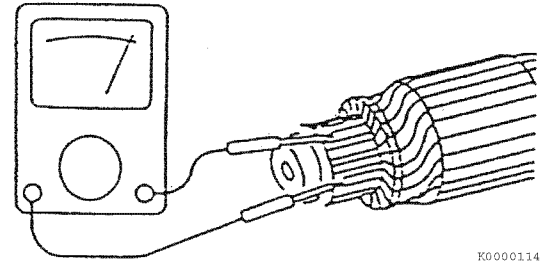

**Figure 11-14**
Measure the depth of the insulating material (Figure 11-14, (1)) between commutator segments (Figure 11-14, (2)). If the depth measures less than the limit, use a hacksaw blade (Figure 11-14, (3)) to remove the insulating material until the depth is within the limit.
A normal commutator condition is indicated in (Figure 11-14, (4)). An abnormal commutator condition is indicated in (Figure 11-14, (5)).